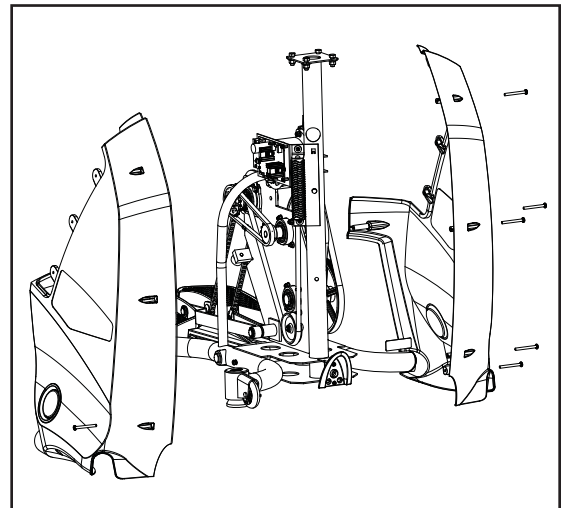

Figure 8
**5-2** Remove the 6 Phillips screws attaching the right and left side covers and place to the side (see Figure 8).